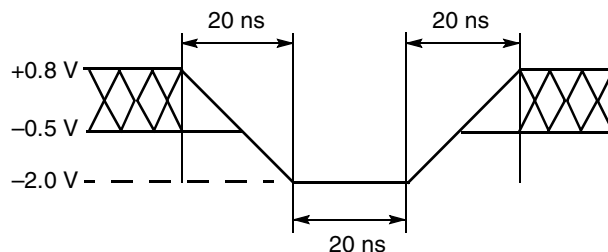
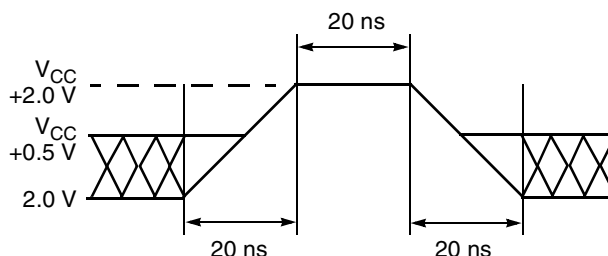

Figure 9. Maximum Negative Overshoot Waveform
Figure 10. Maximum Positive Overshoot Waveform
1. Minimum DC voltage on input and I/O pins is -0.5 V. During voltage transitions, input and I/O pins may overshoot V_{SS} to -2.0 V for periods of up to 20 ns. See Figure 9. Maximum DC voltage on input and I/O pins is $V_{CC} + 0.5$ V. During voltage transitions input or I/O pins may overshoot to $V_{CC} + 2.0$ V for periods up to 20 ns. See Figure 10.
2. Minimum DC input voltage on pins A9, OE#, and RESET# is -0.5 V. During voltage transitions, A9, OE#, and RESET# may overshoot V_{SS} to -2.0 V for periods of up to 20 ns. See Figure 9. Maximum DC input voltage on pin A9 and OE# is +13.0 V which may overshoot to 14.0 V for periods up to 20 ns.